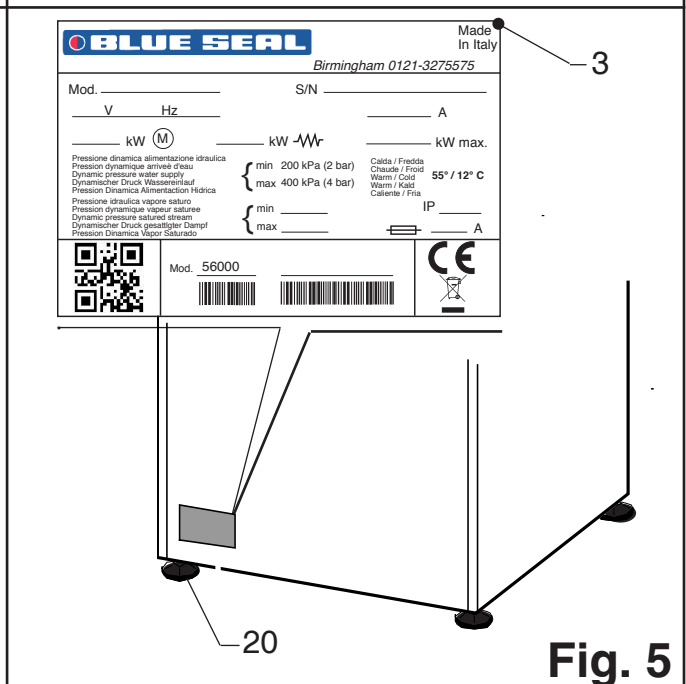

Fig. 5
3.1.c ELECTRIC CONNECTION (Fig. 5)
- Before performing the electrical connection, make sure that the data on the power line correspond to those indicated on the rating plate (pos. 3 Fig. 5) and that the main electric power switch upstream of the machine is disconnected (position O/OFF).
- Connect the power cable (6) to the main switch upstream of the machine.
- Connect the equipotential earth electrode to the terminal (7).